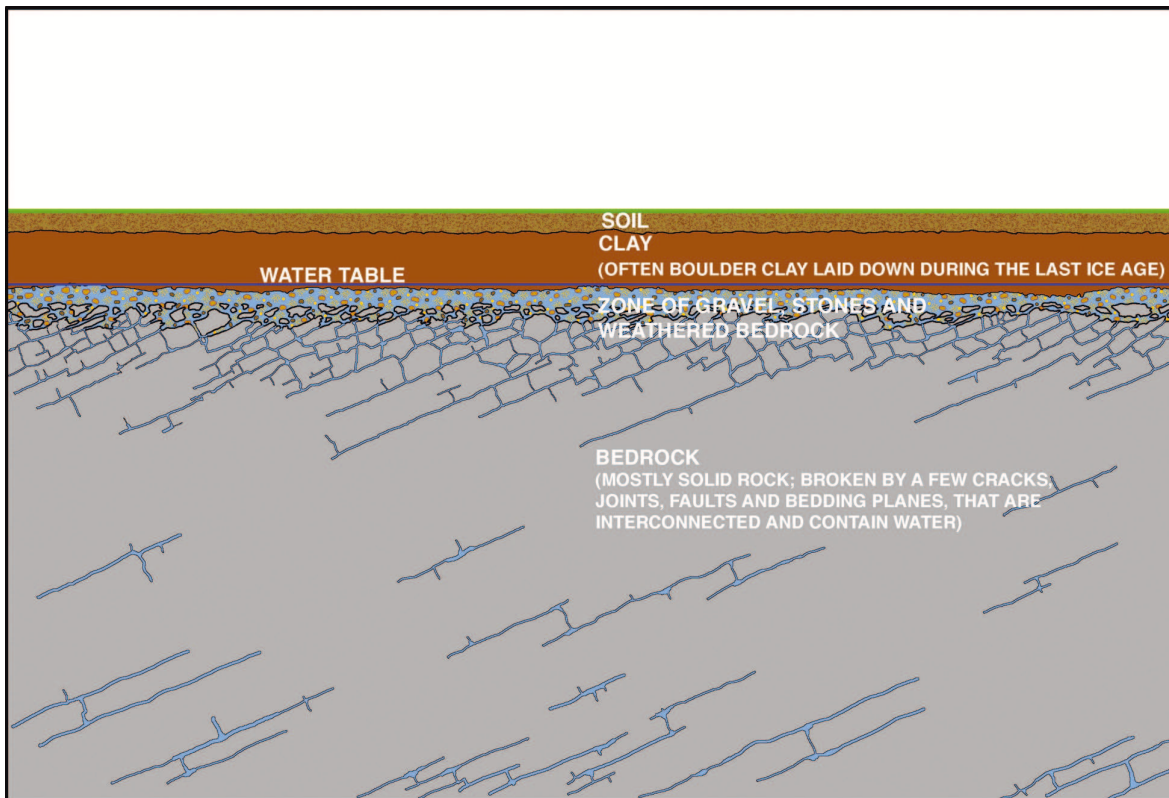

**Figure 1.**
**Figure 1** illustrates how groundwater is always moving. The figure shows a river on the floor of a valley. Groundwater begins its journey as rainfall, some of which percolates vertically down through the soil and rock until it can go no deeper. This level is the position in the rock below which all the pore spaces or cracks in the rock are already filled with water. The newly-arrived water adds to the water in the cracks in the rock and starts filling up those cracks that do not already contain water. The level at which the new water's journey is arrested is called the 'water table', which is defined more precisely as the level below which all available and interconnected spaces in the soil or rock are saturated.
Notice that the water table is not flat, but slopes from the hills, down the valley sides, towards the river. Figure 1 is schematic, so the slope of the water table is exaggerated for illustrative purposes. In Nature, the slope of the water table is much gentler than is shown. It is important to recognise that the water table is always sloping, and groundwater flows in the direction of the slope. If a well is about to be drilled, and the owner is concerned about potential pollution, the owner should look uphill. This will be the direction from which groundwater will flow. For example, if slurry is often spread on grassland uphill from the proposed borehole site, and the soils below the grass are thin, rainfall will probably flush some of the slurry down through the soil and rock to the water table. The dilute and partially broken-down slurry will then enter the groundwater flow system and move in the upper part of the saturated rock, in the direction of groundwater flow, towards the proposed borehole site.